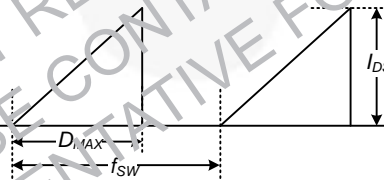

Figure 4. Repetitive Peak Switching Current
- Repetitive peak switching current on the inductive load is assumed: limited by maximum duty (D_{MAX}=0.73) and junction temperature (see Figure 4).